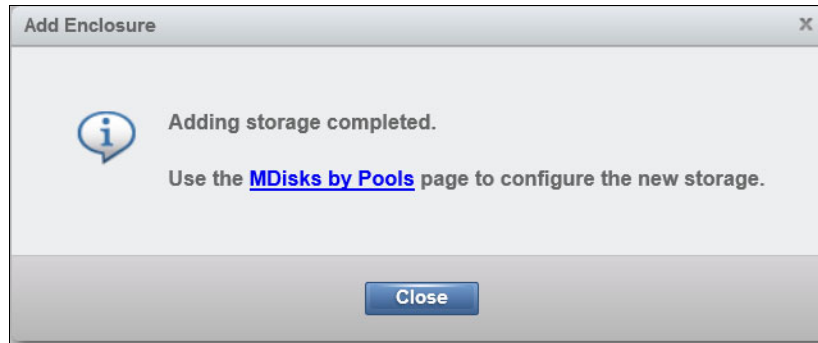

Figure 6-28 Adding AE2 storage enclosure complete
6. You can now close the last window and start to create MDisks on your IBM FlashSystem V9000 (Figure 6-28).